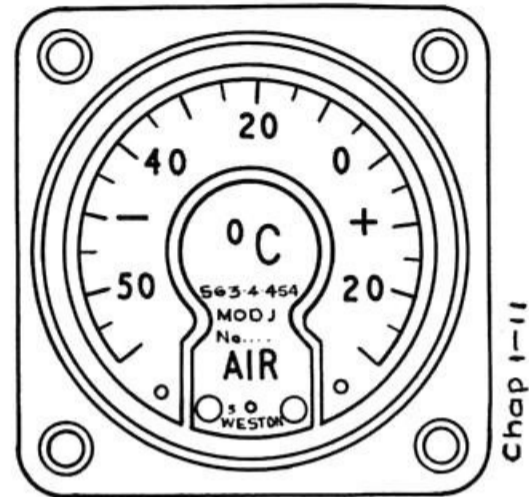

Fig. 1. Indicator, Type S63.4.454
1. This indicator (Ref. No. 6A/2769) (*fig. 1*) is calibrated in degrees C from -70 to +30; the indicator is controlled by variation of temperature in a resistance bulb which obeys a platinum law.